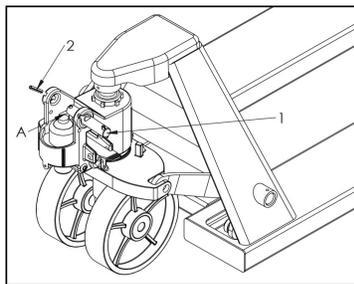

Figure 1
3.1 Pull out the round pin (item 1) in Figure 1.